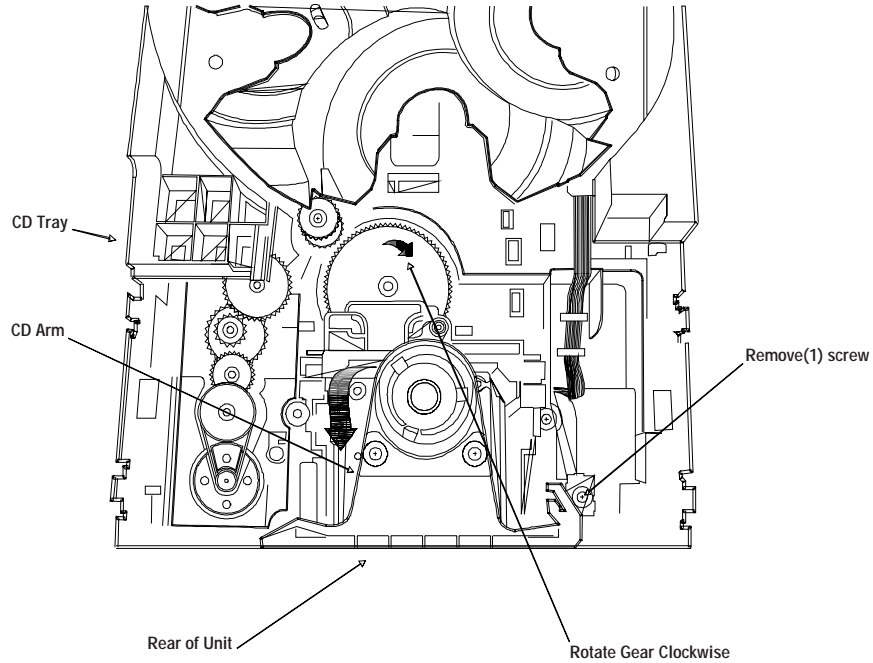

Fig. 3
5. Remove one (1) screw from the CD Arm Stop as shown in Figure 3.